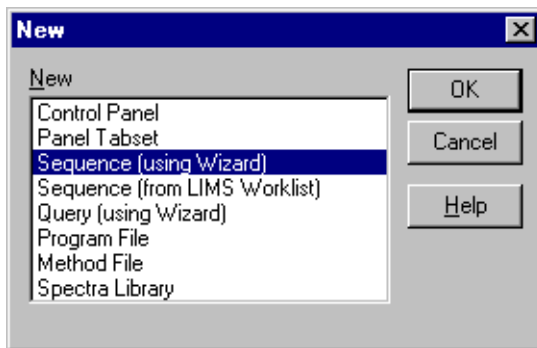

Figure 94. Creating a New Sequence
3. In the Browser, select **File>New** and select **Sequence (using Wizard)** (see Figure 94).